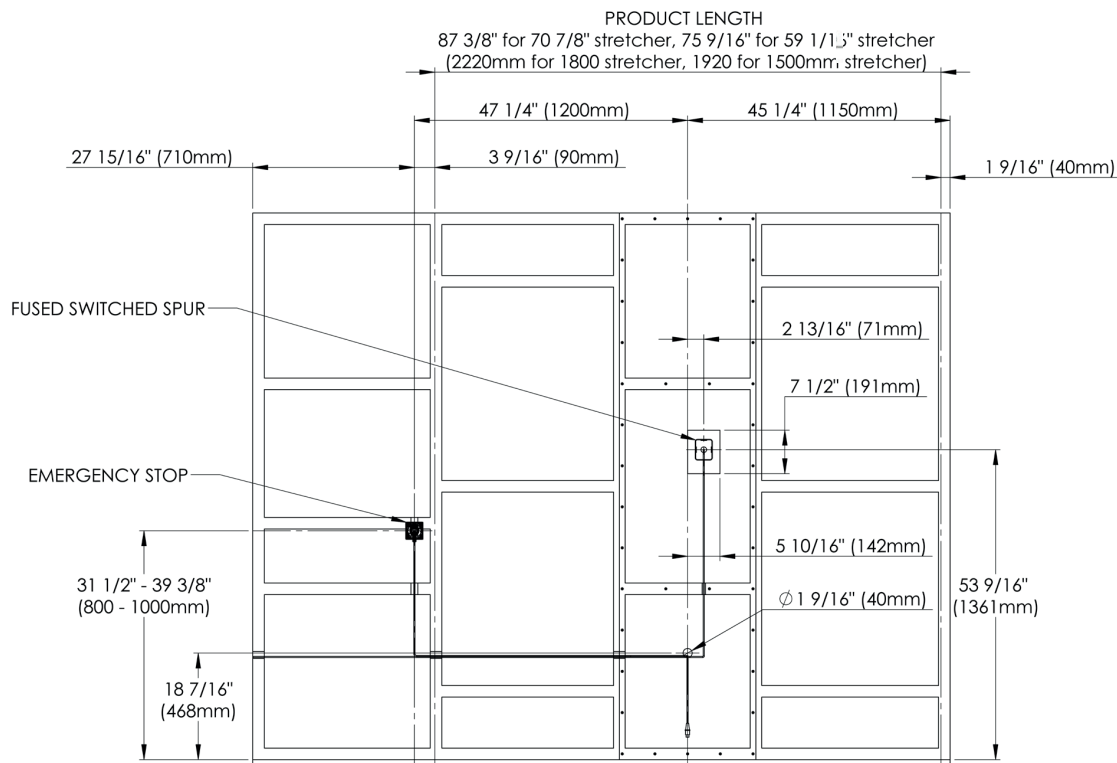

Fig 11.2 Emergency stop & switch, waterproof, flex outlet
- The provided emergency stop must be fitted at the position shown in Fig 11.2.
- Provision needs to be made to allow the cable to be traced in through the wooden frame and remain hidden behind the dry wall/plasterboard. At least 8" (200 mm) of cable should come through the marine plywood at the position shown in Fig 11.2.
- A switched, waterproof flex outlet is required for hard wiring the product to. This outlet must be located in the position shown in Fig 11.2. The outlet cannot be any larger than 7 1/2" (191mm) tall or 5 5/8" (142 mm) wide and must be flush or sub-flush to the level of the marine plywood once fitted.
- The emergency stop has been fitted at the position shown in Fig 11.2. The cable has been hidden in the wall and at least 8" (200 mm) of cable is coming out of the wall.
- The switched, waterproof flex outlet has been fitted in the position shown in Fig 11.2, is no larger than the stated dimensions and flush or sub-flush with the wall.